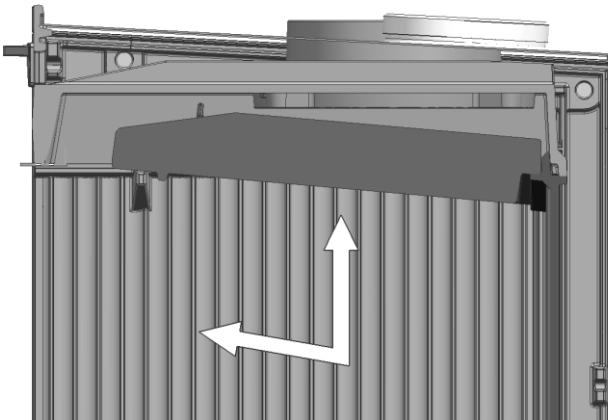
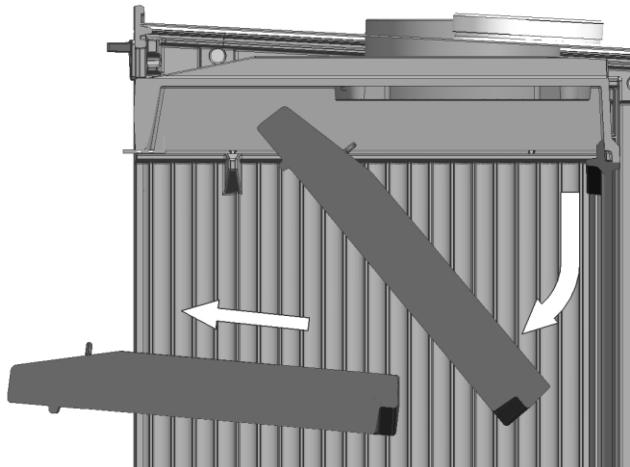

Fig. 1
Fig. 2
1. A – Slide the baffle plate forwards and upwards until the side pins of the baffle are removed (Fig. 1, Fig.2)